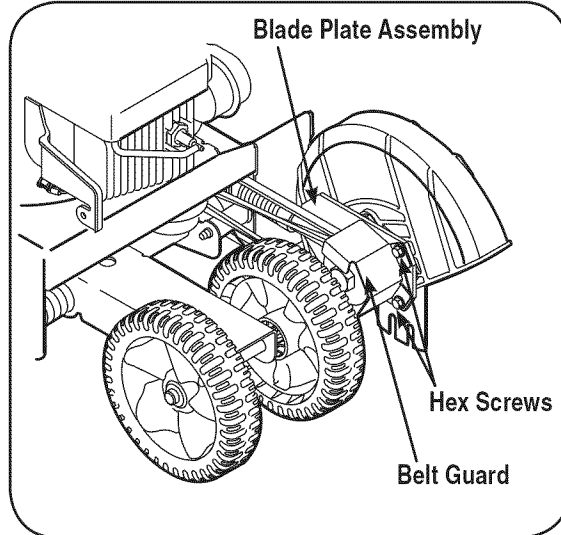

Figure 5-5: Remove the belt guard.
3. Remove the belt guard by removing the two self-tapping screws which secure it to the blade plate assembly, Figure 5-5.